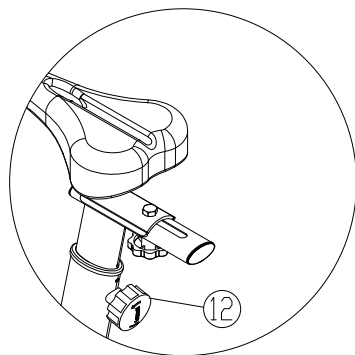

Figure 9
9. Adjust the seat height via the star-shaped knob (Part 12). Multiple height positions are available; refer to Figure 9.